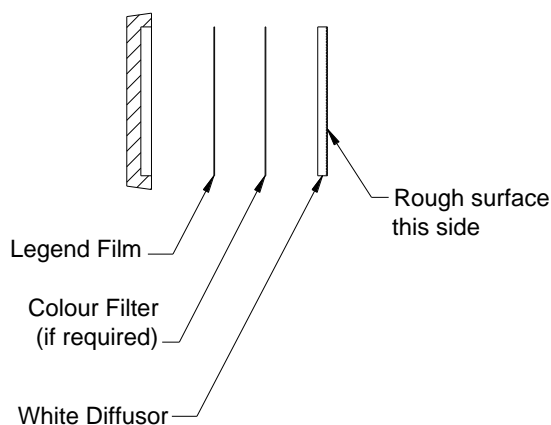

Figure 3-10 – Backlit Window Order of Assembly
1. Assemble each window as shown in Figure 3-10 – Backlit Window Order of Assembly.